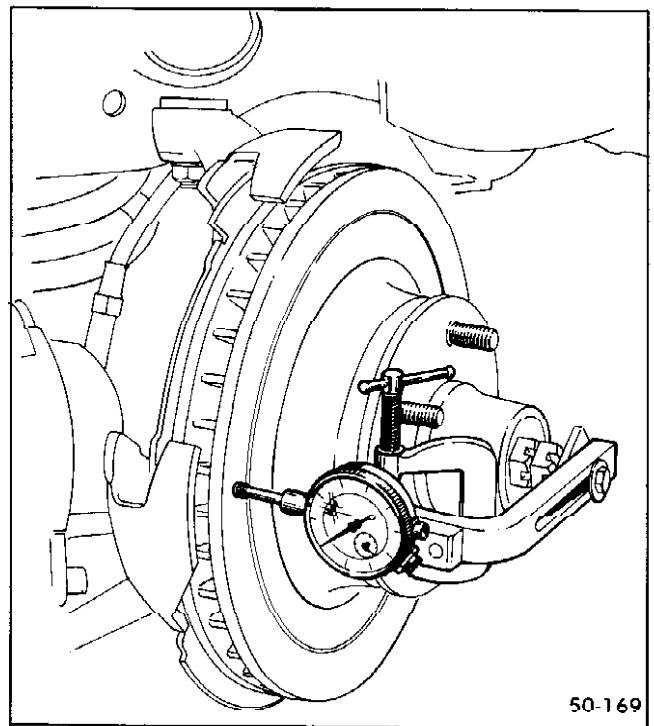

Figure 50-59--Checking Rotor For Lateral Runout
3. To check lateral runout, first tighten the wheel bearings until all of the play is out of the bearings. Fasten a dial indicator to some portion of the suspension so that the point of the stylus contacts the rotor face approximately one inch from the rotor edge. See Figure 50-59. Set the dial at zero. Move the rotor one complete rotation, checking the indicator as the rotor moves.